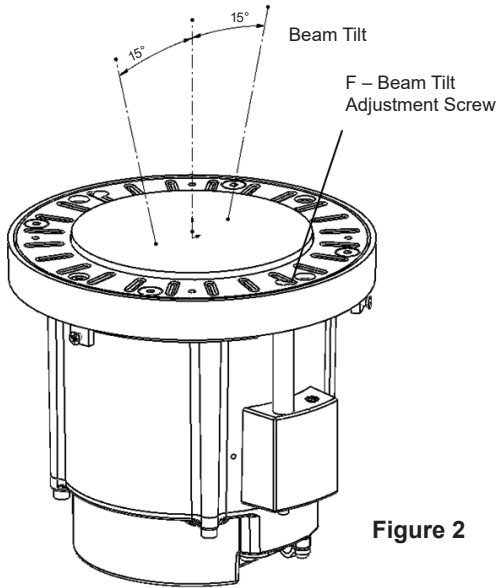

Figure 2
- 2) Remove decorative trim ring (A) by removing four trim ring screws (B) using 2.5mm Allen hex wrench provided.
- 3) Remove fixture assembly (C) from plastic well assembly (D) by removing two screws (E) using the 2.5mm hex wrench provided. **NOTE:** It is not necessary to open sealed fixture assembly for any part of the installation. There are no adjustments or user serviceable parts inside the unit.
- 5) **NOTE:** Well housing assembly must be oriented correctly to ensure adjustable beam tilt feature operates in the desired directions. (See Figure 2 and 3.) At desired location, dig hole approximately 3" larger in diameter and depth than the housing. Top edge of housing should be at or slightly above finish grade or to top of concrete grade. Adjust by adding or removing pea gravel or equivalent drainage material.
- a. If installing in concrete, plastic well housing should be secured with reinforcing bars (rebar) (not provided). Pour concrete to top edge of well housing (D).
- 9) Replace fixture assembly (C) into well housing and reinstall screws (E) removed in step #3.
- 10) If desired, beam tilt angle may be adjusted up to 15° by rotating adjustment screw (F) at top of fixture assembly using the 3mm Allen hex wrench provided. (See Figure 2 and 3.)
- 11) Reinstall decorative trim ring (A) and four trim ring screws (B) using 2.5mm Allen hex wrench provided.